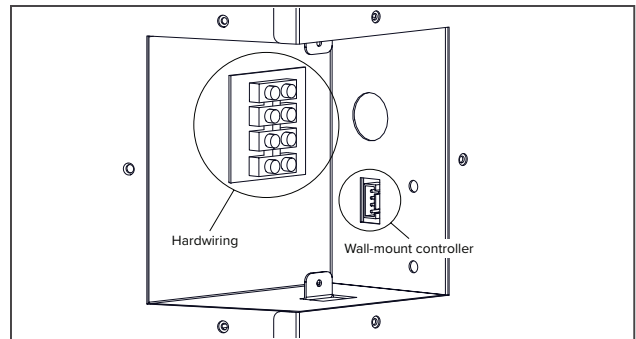

Fig. 21
- With the appliance in the rough-in framing, insert far enough into the enclosure to locate the supply wires to the terminal block (**Fig. 21**).